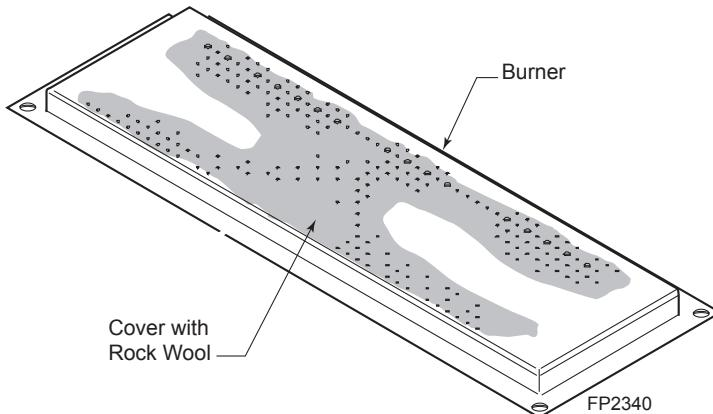

Figure 49 -
2. Distribute one layer of rock wool to cover the burner. *Figure 49*